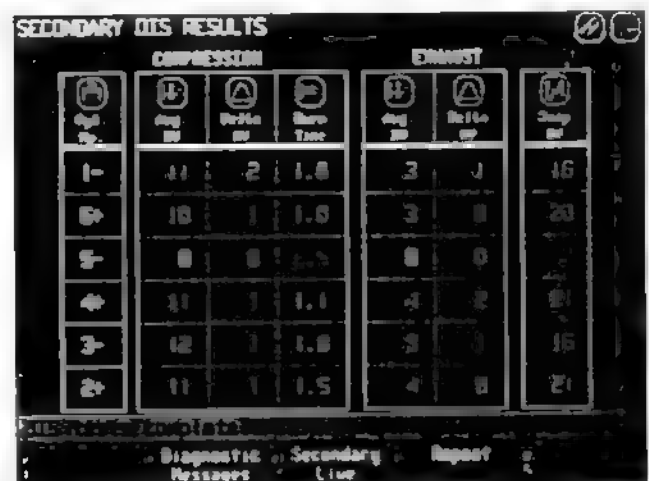

Figure 3-25
2. Follow the screen prompt (run the engine at idle or cranking speeds) and "snap" the throttle. The analyzer measures the burn time, various KV readings and circuit gap, and then displays the results for each cylinder on the chart on the screen shown in Figure 3-25.
Secondary data is collected from the DIS system. After a few seconds, the display screen reports the following KV readings for the Compression Firings and Exhaust Firings of each cylinder (see Figure 3-25):